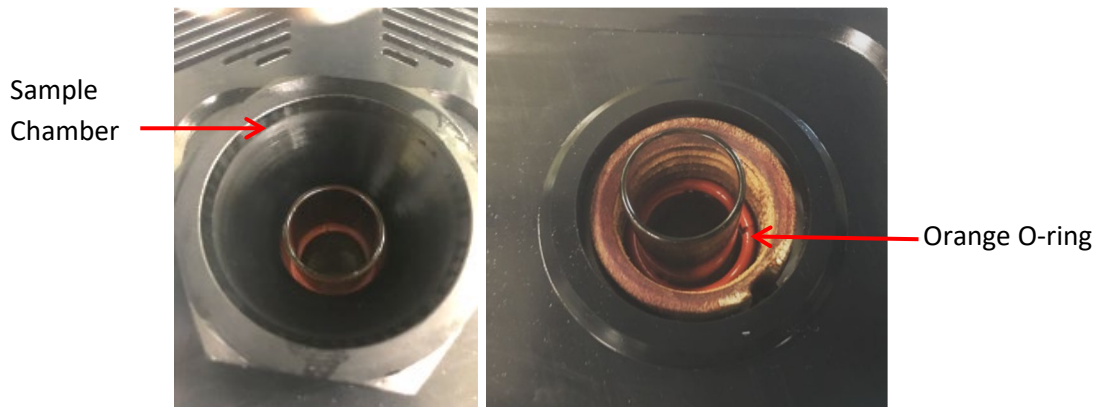

Figure 19: TESC Base Unit Sample Chamber with Support Ring and Orange O- Ring
1. Fill the rimless test tube with 20 mL of sample oil and carefully place it in the TESC sample chamber, ensuring the orange O-ring is not displaced during sample insertion. See Figure 19.